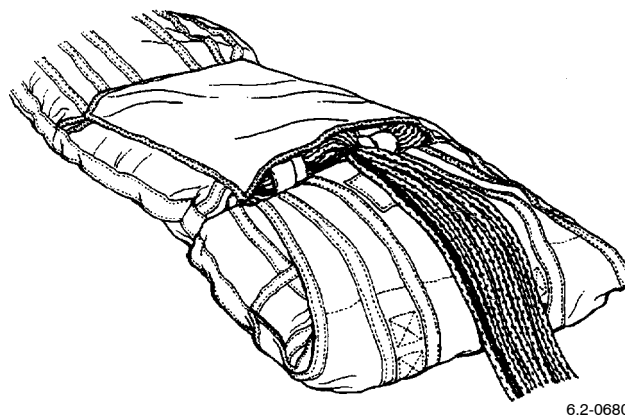

Figure 30. Canopy Stowage Completed
ad. Arrange the unstowed portion of suspension lines to lead away centrally from between the two pairs of bottom flap locking loops. Lay the lines centrally on the bottom flap (Figure 30). (QA)